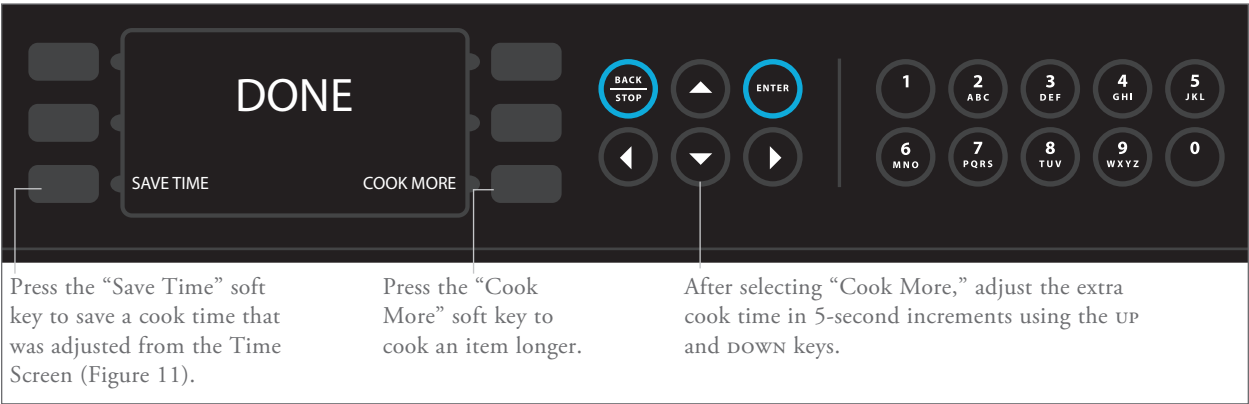

FIGURE 12: Done Screen
Refer to Figure 12. If the DONE screen is enabled, the operator is given two choices after cooking:
- 2. Cook More – the oven will cook the food item using the cook settings of the final recipe event (see pages 16-17 for more information about recipe events). By default, the extra cook time is the greater of 10 seconds or 25% of the last cook cycle. The operator may adjust the cook time before starting a “cook more” cycle (Figure 12).